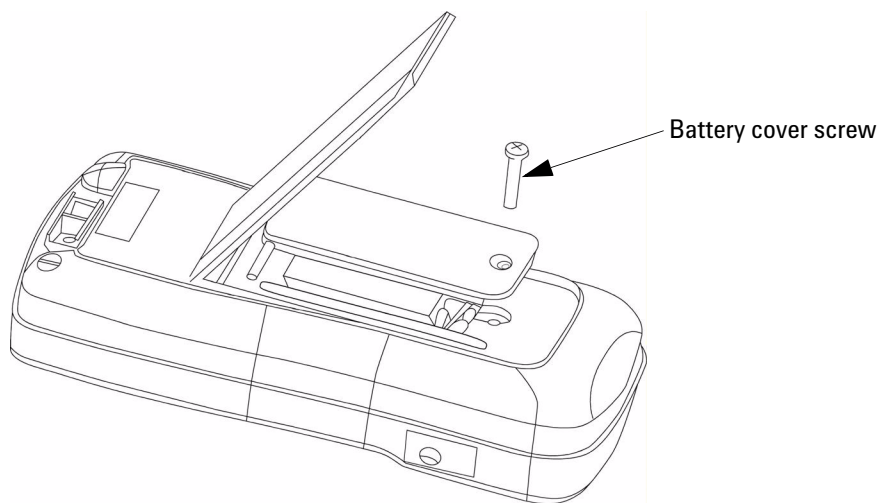

Figure 3-1 Battery replacement
- 1 Loosen screws with a suitable screwdriver and remove the battery cover as shown in Figure 3-1.